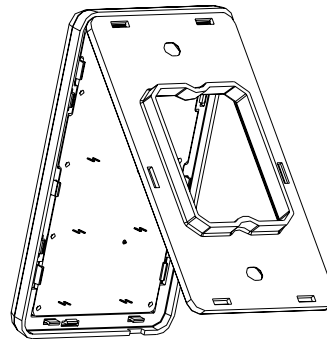

FIG. 6 Attaching the faceplate to the mounting frame
6. Attach the faceplate to the mounting frame first at the top and swing it to the bottom. See FIG. 6
6. Attach the faceplate to the mounting frame first at the top and swing it to the bottom. See FIG. 6.